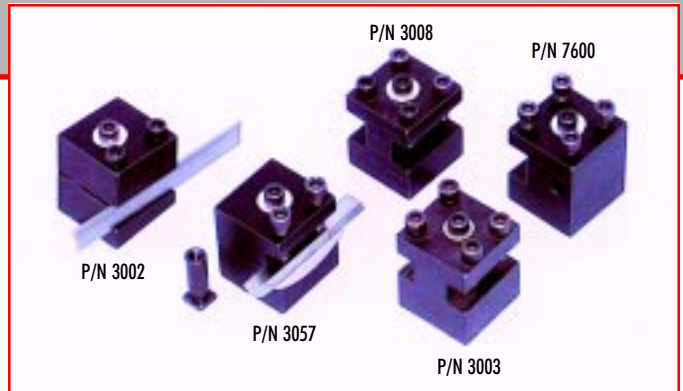

FIGURE 6—Cutoff tool holder (left) and tool posts.
TWO-POSITION TOOL POST, 1/4"-1/4", P/N 3003—(See Figure 6.) It is not unusual to have to stop and change lathe tools several times while turning a part on the lathe. The change may be to switch from a left-hand tool to a right-hand tool, from a sharp-nosed tool to a radiused tool, or from a roughing tool to a finishing tool. Whatever the reason, each change requires a little setup time. This time can be reduced by using a two-position tool post. Each Sherline two-position tool post mounts two 1/4" lathe tools. By having one or more of these tool posts with your favorite lathe tools pre-mounted in them, you can simplify your work and reduce the time required to change tools.
TWO-POSITION TOOL POST, 5/16"-3/8", P/N 3008—(See Figure 6.) This two-position tool post looks similar to P/N 3003 but is designed to hold a standard 5/16" (8mm) square tool bit on one side, and a standard 3/8" (10mm) square tool bit on the other.
1/4" ROCKER TOOL POST, P/N 3057—(See Figure 6.) The cutting edge of a lathe tool should be set right on or just slightly below the centerline of the part being machined. With new lathe tools this is not a problem, because Sherline tool posts are made to hold them at the correct height. Older tools that have been sharpened numerous times may require shimming to bring them up to the correct height. The Sherline rocker tool post is designed to eliminate the need for shimming. The height of the cutting edge can be changed by simply adjusting the two clamping screws. This inexpensive accessory reduces setup time and also extends the life and the usefulness of your old lathe tools.
3/8" INSERT HOLDER TOOL POST, P/N 7600—(See Figure 6.) Your present Sherline tool post may be modified to accept these special tool holders, but an easier solution is Sherline's special tool post. It is designed to fit the larger 3/8" square and 3/8" round tool holders commonly used for carbide or diamond inserted tips. It will also hold Sherline's own P/N 2256 (RH) and P/N 2257 (LH) 35° inserted tip tool holders. It is machined from solid aluminum and has a black anodized finish. Purchase of this tool post will allow you to keep your standard tool post available for use with 1/4" high-speed steel tools for jobs where they are sufficient and/or a specially ground and shaped tip is required.
(See Figure 6.) After completing a part in the lathe it is frequently necessary to separate the part from the excess material used for chucking. This operation is best accomplished with the use of a cutoff tool or "parting tool" as it is sometimes called. The Sherline cutoff tool and holder consists of a very slender high-speed tool steel cutting blade mounted in a special holder. The thinness of the blade (.040" or 1mm) enables it to feed into the part quite easily, and, at the same time, minimizes the amount of waste material. The turning speed for parting should be approximately one-half the normal turning speed for any given material. One word of caution; never use a parting tool on a part mounted between centers. The part can bind on the cutter and result in a scrapped part or a broken tool. A small amount of cutting oil is a must. Parting off free machining material over a 1.00" (25mm) diameter will always be a problem on a machine of this size.
(See Figure 19.) Sherline now manufactures its own inserted tip carbide tool holders. They are available individually as a right-hand holder (P/N 2256) or a left-hand holder (P/N 2257). The pair of RH and LH is P/N 2258. Each comes with a P/N 7605 55° carbide insert, hold-down screw and special Torx key. The 3/8" square shank is held in a P/N 7600 tool post. (See Figure 6 on page 11.) The 35° offset angle of the tip makes it easier to accomplish certain cuts. For example, by using the tool holder square with the crossslide, you can turn an O.D. up to a shoulder and then finish the shoulder by backing the tool out while still maintaining the proper tool clearance. The tip of the cutting tool is .375" from the bottom of the holder, which is the industry standard. The holders are made from case hardened steel with a black oxide finish.